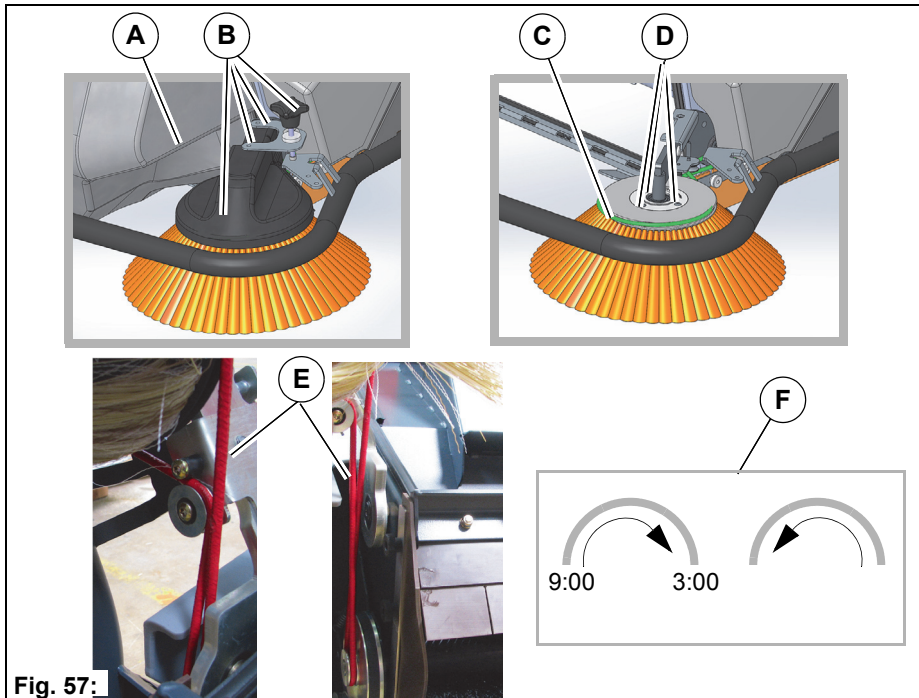

Fig. 57:
1. Switch off the machine and remove the dirt hopper **Fig. 57-A**.
2. Remove both M6x16 flanged button head bolts, the brush adjuster and the cover **Fig. 57-B**.
3. Remove the round belt from the side brush **Fig. 57-C**.
4. Loosen the three screws **Fig. 57-D** of the side brush and remove it.
5. Fit the new side brush in the reverse order. Pay attention to the run of the belt **Fig. 57-E**.
2. Rotate the adjusting wheel until half of the side brush is touching the floor. Compared to a clock, the sweeping level must be from approx. 9 o'clock to 3 o'clock on the floor **Fig. 57-F**.